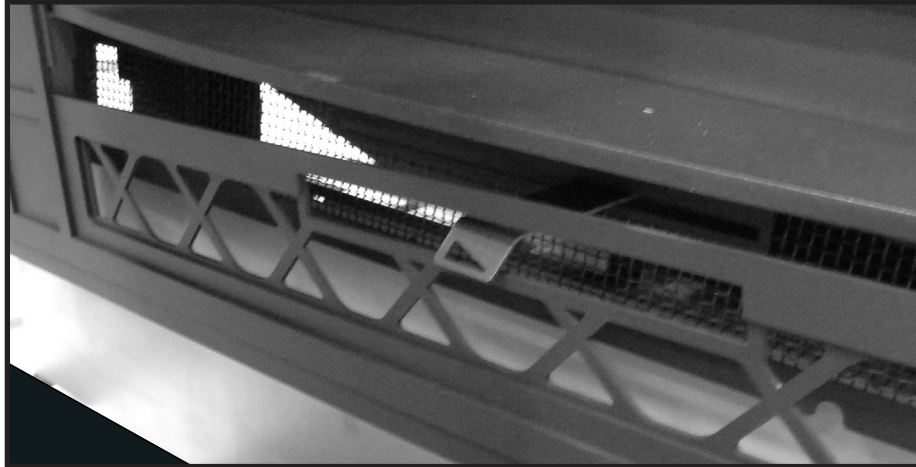

Figure 14: FP30 Craftsman front damper clearance.
1. Align and place the air control lever through the opening in the lower section of the Front Assembly (Figure 14).